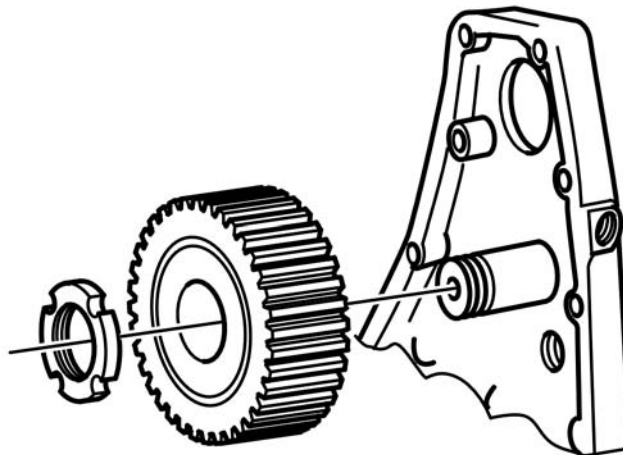

Fig. 1: installing intermediate gear
- A new nut is used to install the intermediate gear. It should be installed with the flat surface against the ball bearing. This nut no longer uses a washer and lock ring. (See Fig. 1: installing intermediate gear, page 2.)